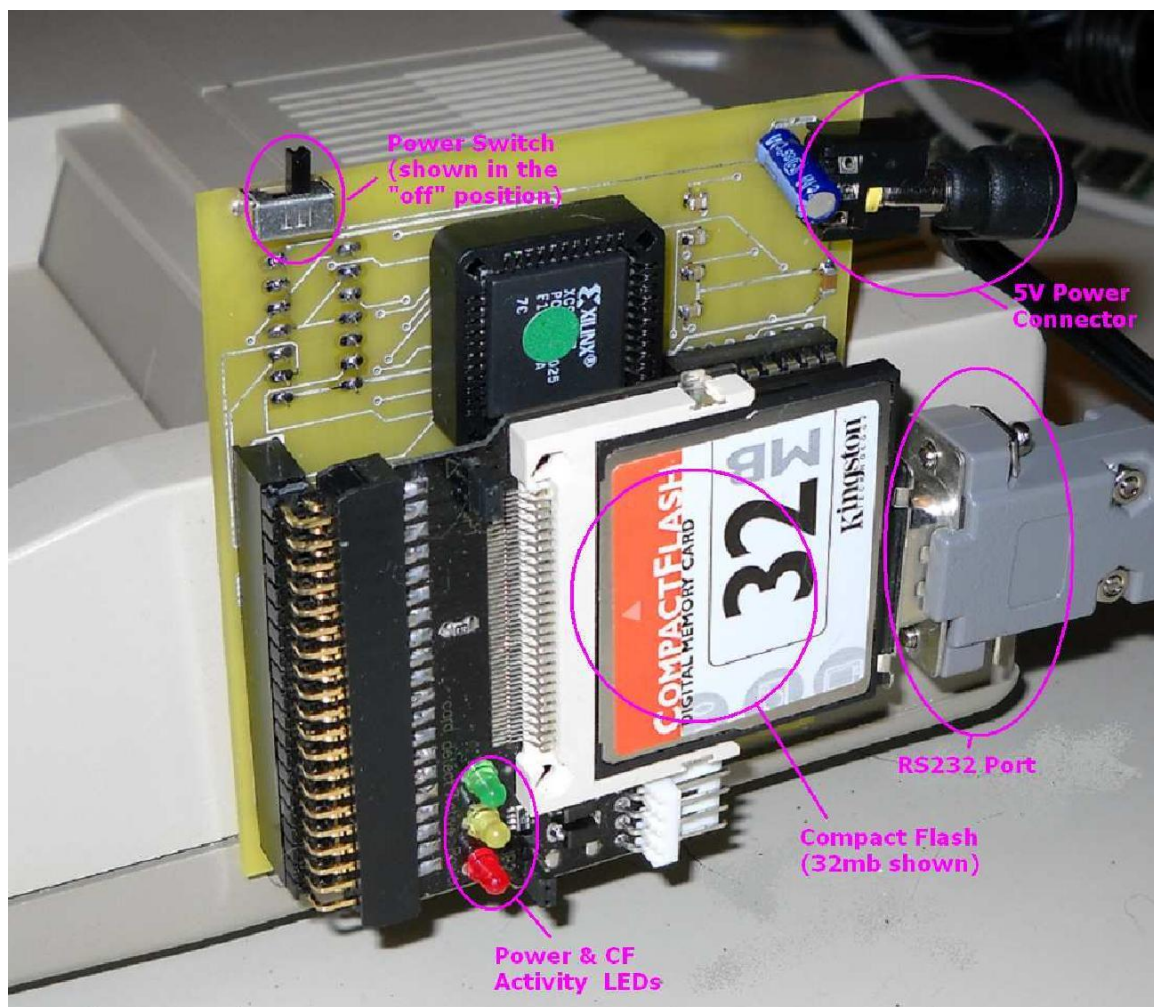

Figure 1- Component Location
2. Plug the nanoPEB-SIO into the console's expansion port as shown in figure 1.